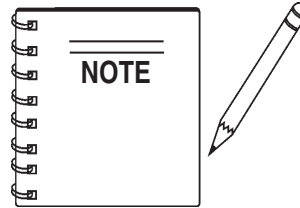

**Figure 13. Travel Lever**
2. To make the compactor travel forward, push the travel lever forward (Figure 13). To make the compactor travel backward, pull the travel lever back (Figure 13).